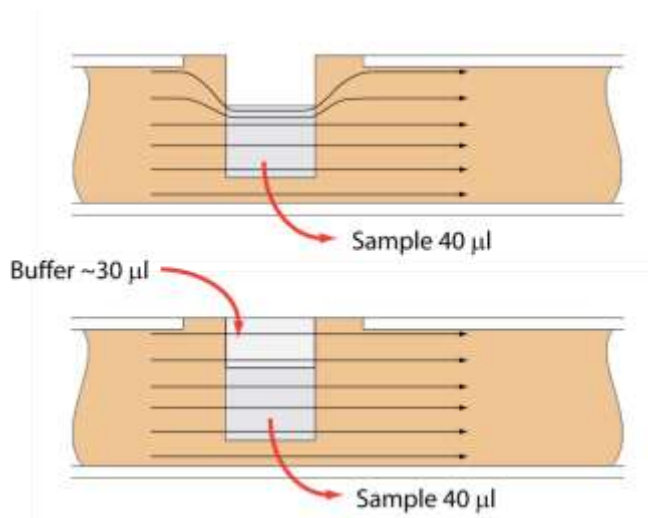

Figure 11.1. An illustration of the electrophoretic effect on a DNA sample when a sample well is not completely filled.
Proper sample loading is critical for best performance of BluePippin cassettes. For maximum reproducibility and accuracy, the sample should travel through the central section of the gel column, and should be bounded on all four sides by uniformly conductive media – either gel or electrophoresis buffer. The goal of the loading procedure is to produce this geometry in the sample loading well, as illustrated in the bottom section of **Figure 11.1**. Properly prepared samples will be 40 μ l in total volume consisting of 30 μ l of DNA mixed with 10 μ l of BluePippin loading solution. The loading solution contains concentrated Ficoll as a densifying agent (see following chapter on Sample Preparation for details), and therefore the samples will sink and form a high density layer beneath the electrophoresis buffer when pipetted slowly into the sample wells. If there is insufficient conductive buffer over the sample, the electrophoretic forces lines will curve upward as the sample exits the well (see **Figure 11.1**, upper section), and the sample will be drawn to the top of the cassette where it can travel out of the gel into the gap between the gel column and the plastic top of the channel. Sample moving in this gap will travel at a different rate than the sample inside the gel column, and will lead to elution of undesired size fractions in the eluted material. In such cases, the contaminating DNA will usually (but not always) be higher in molecular weight than the selected DNA.
2. **Remove 40 μ l of buffer from the first sample well, and load 40 μ l of sample (or marker) into that well.** Take care not pierce the agarose with the pipette tip. There is gel on all sides and bottom of the sample well. In addition, there is an agarose “chimney” surrounding the top of the sample well that protrudes up through the cassette cover (see **Figure 11.1**). When removing buffer, some users find it useful to immerse the pipette tip just below the surface of the buffer and follow the liquid level down with the tip as the buffer is removed. When buffer removal is completed, there will be ~30 μ l of buffer left in the well. When adding sample, place tip of pipette just below the surface of the buffer, and follow the liquid level up with the tip as the well fills. Don't be concerned if the sample well slightly overfills. The density of the sample will allow it to sink before it can flow out of the well.